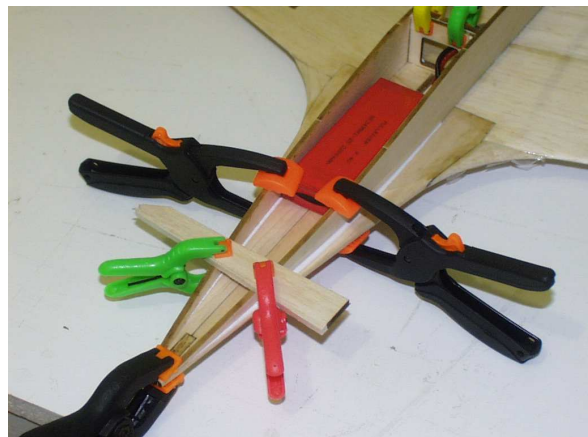

Figure 4.8: Fuselage sides glued down
- Clean up glue and clamp fuselage sides down onto the nose spike (Figure 4.8)